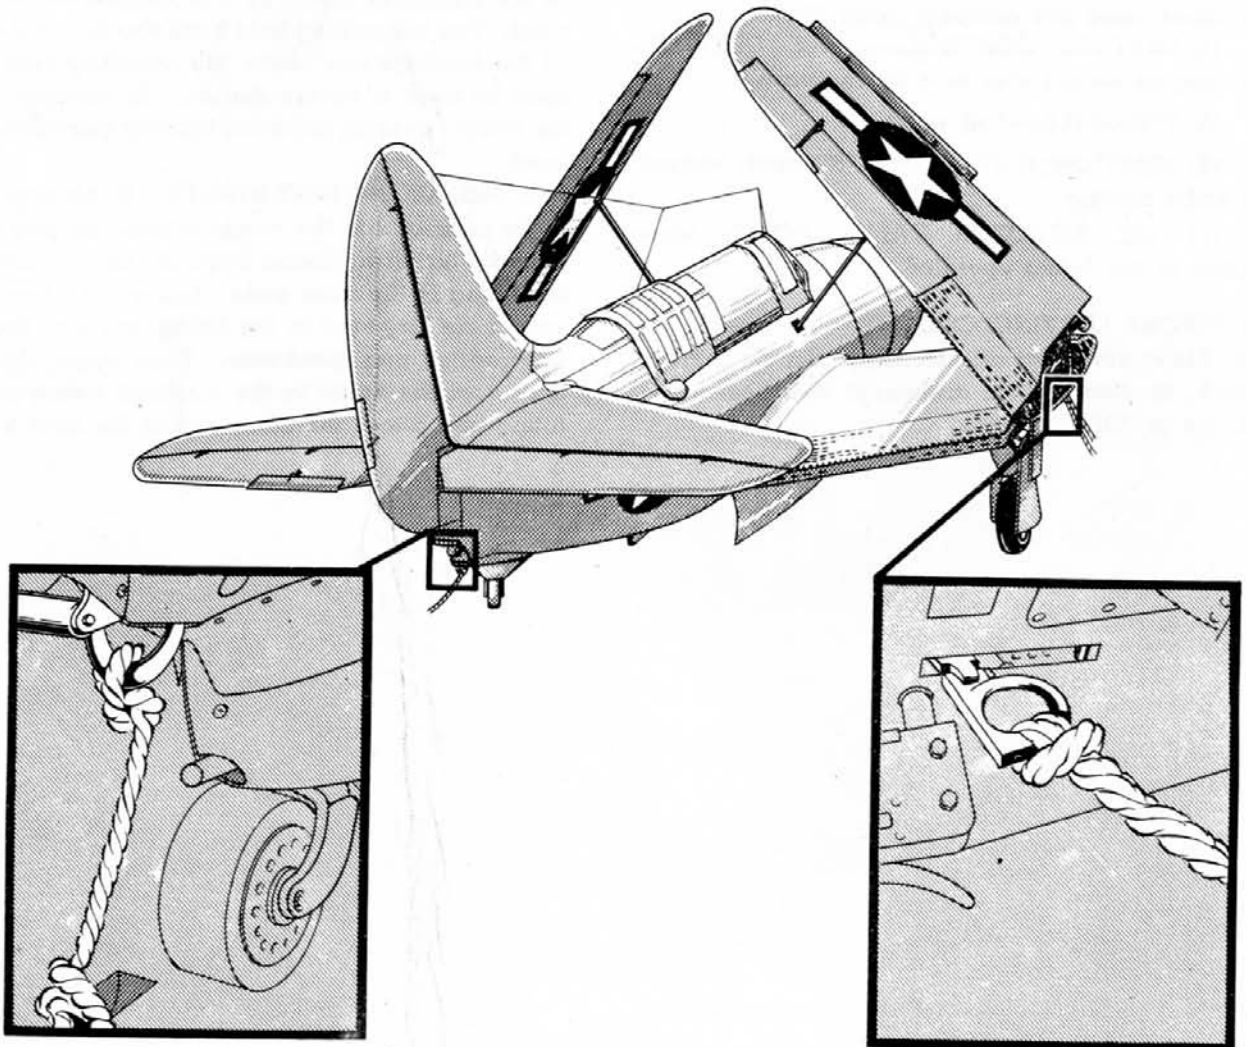

Figure 53 — Tie Down Links
(2) PROPELLER.—Full "INCREASE RPM".
(3) Increase the engine rpm to 1000 and operate in each blower position for 30 seconds or more. The procedure of taxiing back to the line in "HIGH" blower satisfies this requirement. Carrier-based airplanes need not desludge after flight.
(4) MIXTURE CONTROL.—"IDLE CUT-OFF". The engine should stop in a few seconds.
(5) THROTTLE.—Full open.
(6) IGNITION SWITCH.—"OFF", after propeller stops turning.
(7) FUEL SELECTOR VALVE.—"OFF", when engine is not being operated.
**a. TIEING DOWN.**—There are three points at which the tie-down lines may be attached to the airplane. Located on the center panel just inboard of the wingfolds (figure 53) are retractable tie-down rings. The catapulting hold-back shackle in the rear of the fuselage just above the arresting gear hook may be used to secure the tail. In extreme cases, the towing eyes on the main landing gear should be used.